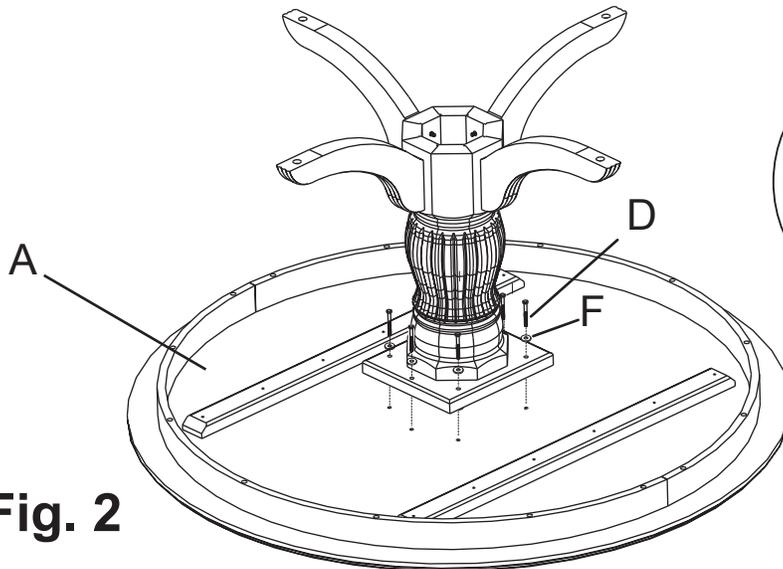
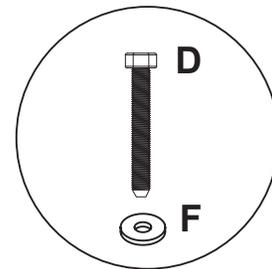

Fig. 2
Fig. 2a
2. Turn the Top Assembly (A) upside down on a clean, protected surface. Align the holes in the Pedestal Assembly (B) to the holes in the Top Assembly (A) as in Fig. 2 and attach with 1/4" Flat Washers (F) and 1/4" x 1 3/4" Hex Bolts (D). See Fig. 2a. Turn upright and adjust levelers on the feet if needed.